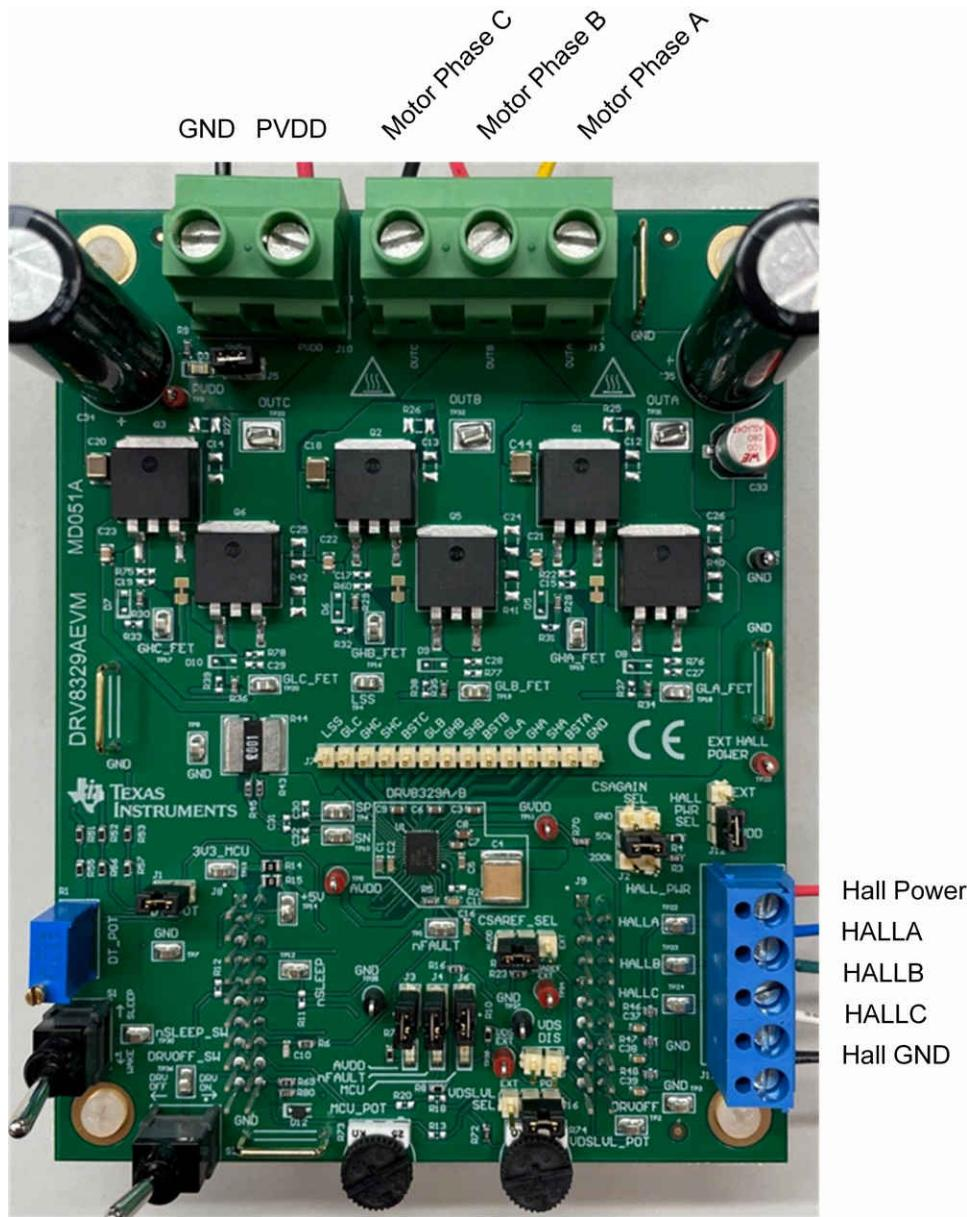

Figure 4-2. Connections from motor to DRV8329AEVM
2. Connect the motor phases to OUTA, OUTB, and OUTC in the correct order to connector J13. For sensed applications, connect the Hall sensors to the appropriate locations on the 5-pin connector J11 as shown in Figure 4-2. Select AVDD or EXT on jumper J11 to choose the Hall power source voltage.
Figure 4-2 shows the power supply and motor connections made to the DRV8329AEVM in order to spin a 3-phase sensored or sensorless Brushless-DC motor.